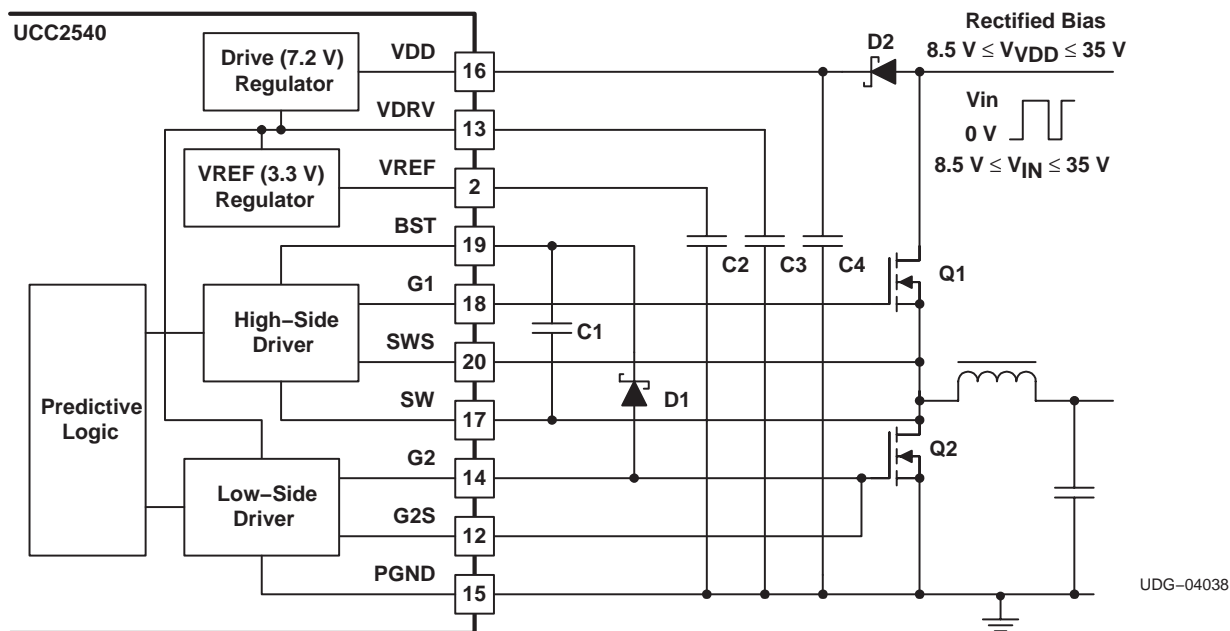
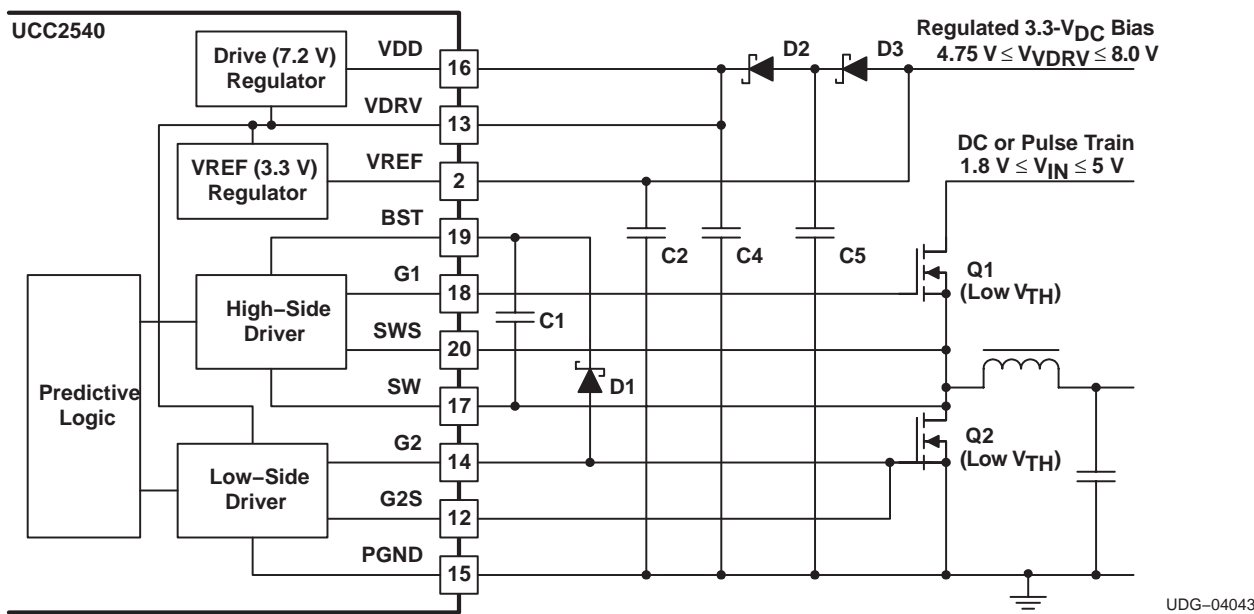

Figure 13. Mode 1 With Rectified Biasing for Input Voltages Between 8.5 V and 35 V
Figure 18. Mode 3 With Regulated 3.3-VDC Bias
- Mode 1, or normal operation requires the availability of a bias of 8.5 V or higher for the device. Here, the bias drives the VDD pin. The low-side drive bias, VVDRV = 7 V, is generated from an internal linear regulator and it directly draws current from the VDD pin. The high-side driver bias is a flying capacitor that is charged from the VDRV pin through the G2 pin, when G2 is HI, via a diode between G2 and BST. The UCC2540 operates in Mode 1 if VVDD > (VVDRV and VVREF) when VVREF rises above 2 V. Mode 1 permits the widest range of bias voltages, operational from 8.5 V < VVDD < 35 V. This mode is compatible with systems that have a 12 VDC bias supply already available. Alternatively, Mode 1 is particularly useful for applications where the input line voltage varies over a wide range and the bias is to be derived directly from the reflected line voltage, such as in Fig. 13.
Assorted combinations of modes and biasing schemes are shown in Figure 13 through Figure 18. In Mode 1 and Mode 2, the bias voltage can either be an independent auxiliary supply or it can be generated by rectifying and filtering the reflected line voltage, as shown in Figure 13 through Figure 16. A regulated auxiliary supply must be used with Mode 3 because the tolerance of the VREF voltage is the control tolerance of the UCC2540. In Mode 3, the regulated auxiliary supply can be independent of the power supply input voltage (as shown in Figure 18) or, the regulated auxiliary supply can be the same source as the power supply input voltage.
Capacitors C1 through C5 are all part of a charge distribution network that allows the UCC2540 to pass charge to the MOSFET gates of Q1 and Q2 (all reference designators in this section refer to the schematics in Figure 13 through Figure 18). This section gives guidelines on selecting the values of C1 through C5 so that the converter functions properly. Specific capacitor values may need to be larger than the recommended value due to MOSFET characteristics, diode D1 – D4 characteristics and closed-loop converter performance. All three modes of operation require a charge pump capacitor and diode, C1 and D1, in order to drive the high-side power MOSFET. Modes 2 and 3 require additional charge pump capacitors and diodes in order to supply voltage to VDD. In general, all charge pump diodes should be Schottky diodes in order to have low forward voltage and high speed. The charge pump capacitors should be ceramic capacitors with low effective series resistance (ESR), such as X5R or X7R capacitors.